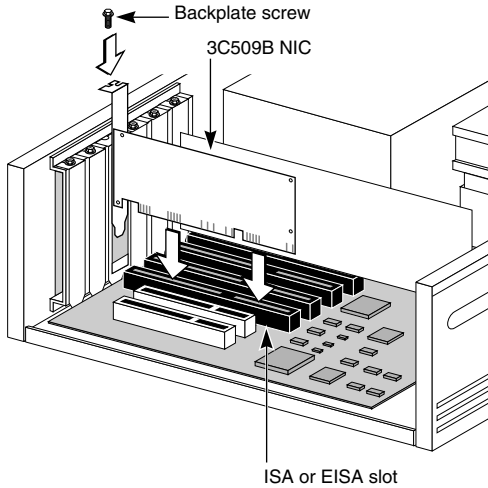

Figure 1-2 Installing the 3C509B NIC
- 3 Locate an available ISA or EISA slot and remove the screw from the corresponding backplate (Figure 1-2). Save the screw.**
Some PCs have both ISA and PCI slots. Make sure that you install the EtherLink III ISA NIC in either an ISA or an EISA slot. See Figure 1-2.
- 5 Ensure that the shape and length of the edge connector on the NIC match the slot that you intend to use (Figure 1-2).**